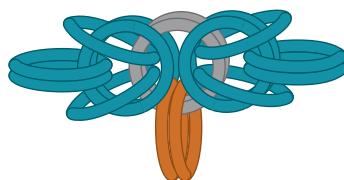

FIG. 2
2. Thread 2 open (orange) jump rings through the 2 (white) jump rings at the center of the Byzantine segment and then close them (**FIG. 2**).